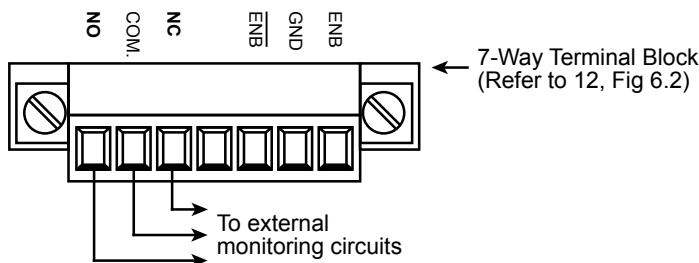

Fig 5.6 NO, COM & NC Relay contacts for external monitoring circuits
A Single Pole Double Throw (SPDT) relay with Normally Open (NO), Common and Normally Closed (NC) contacts has been provided to enable 2-wire remote monitoring of the following 6 alarm / fault conditions through contact switching (See Fig 5.6 below):
2. Over Voltage (OV) Alarm;
3. Under Voltage (UV) Alarm;